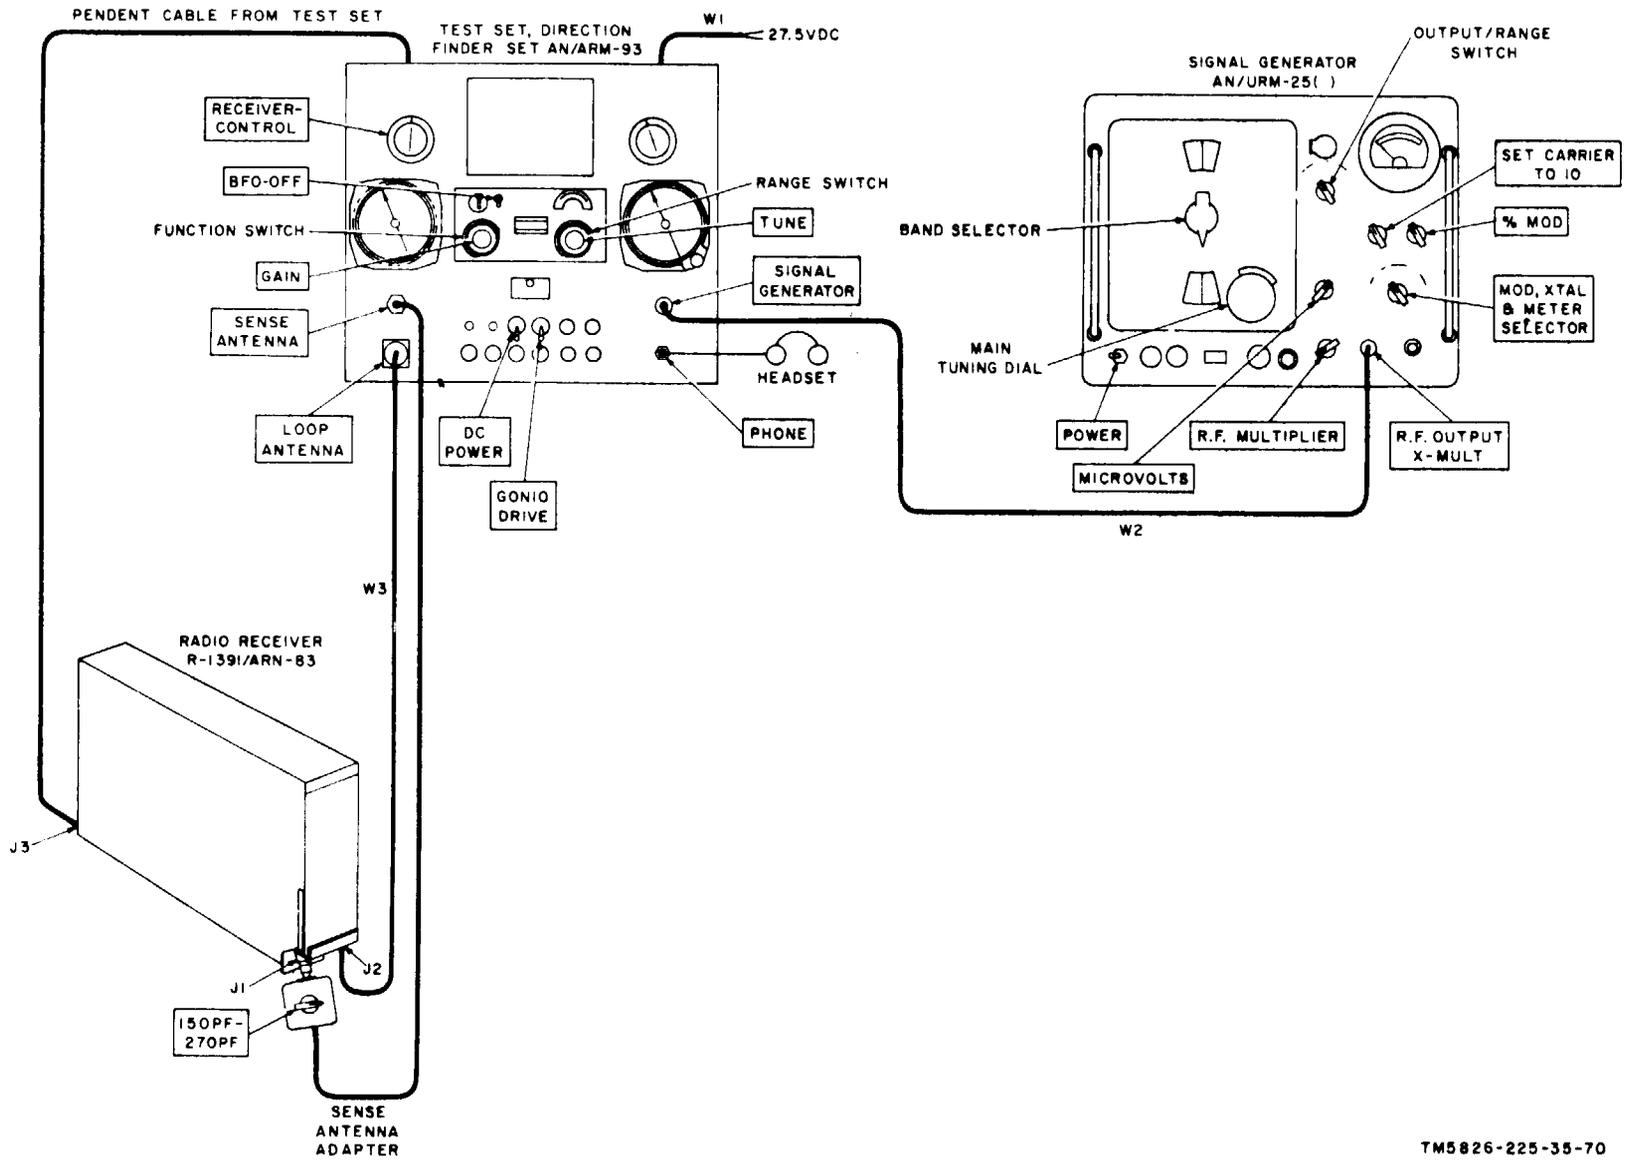

Figure 4-7. Receiver muting test.
- (1) Test Set, Direction Finder Set AN/ARM-93.
- (2) Signal Generator AN/URM-25( ).
- (3) Headset.
*b. Test Connections and Conditions.* Connect the test equipment as shown in figure 4-7. Turn on the equipment and allow a 5-minute warmup before proceeding.